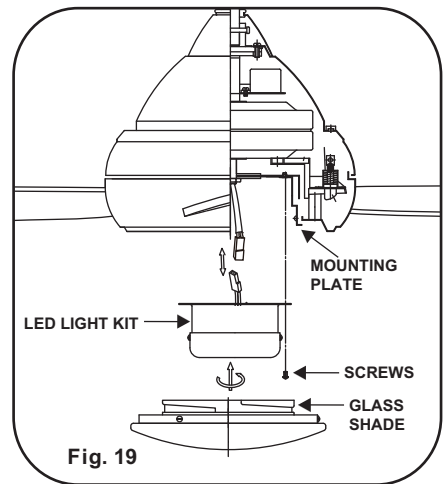

Fig. 19
3. Place the key holes in the LED light kit over the two mounting screws previously loosened from the mounting plate. Turn the LED light kit until the LED light kit locks in place at the narrow section of the key holes. Secure by tightening the two screws previously loosened and the one previously removed. (Fig. 19)
4. Raise the glass shade (or metal light cover) up against the mounting plate and secure it to the fan by turning the glass shade clockwise until snug. **DO NOT OVERTIGHTEN.** (Fig. 19)